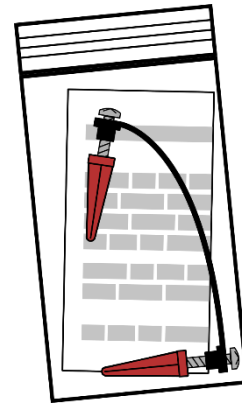

Figure 4 - Mounting Bracket and Instructions
- 1x Mounting Bracket (*Figure 4*)